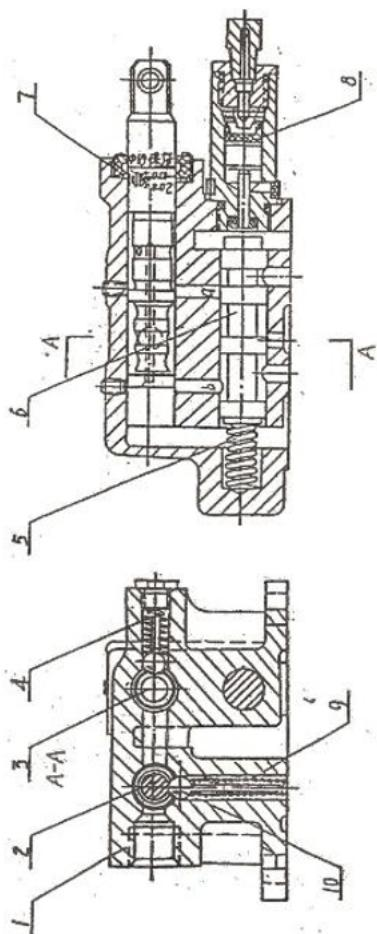

Figure 2-6:Gear Box Control Valve
a. Gear box control valve (Figure 2-6)